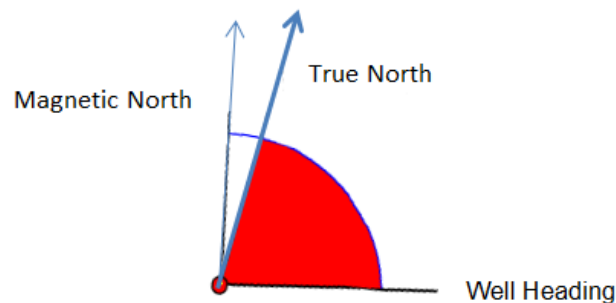

Figure 57 Declination Correction
1. In the Example below Figure 57